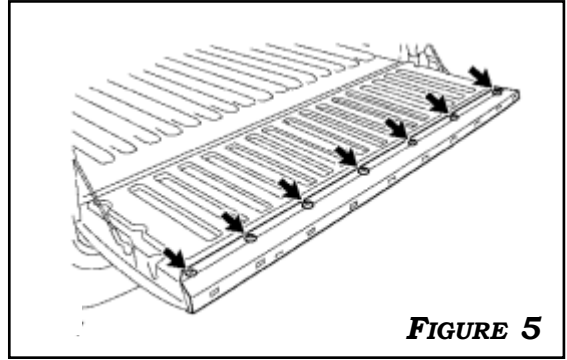

FIGURE 5
5. USE A **T30** TORX SOCKET WRENCH TO REMOVE 7 SCREWS AND DISENGAGE CLIPS TO REMOVE THE TAIL GATE PROTECTOR. **FIGURE 5**